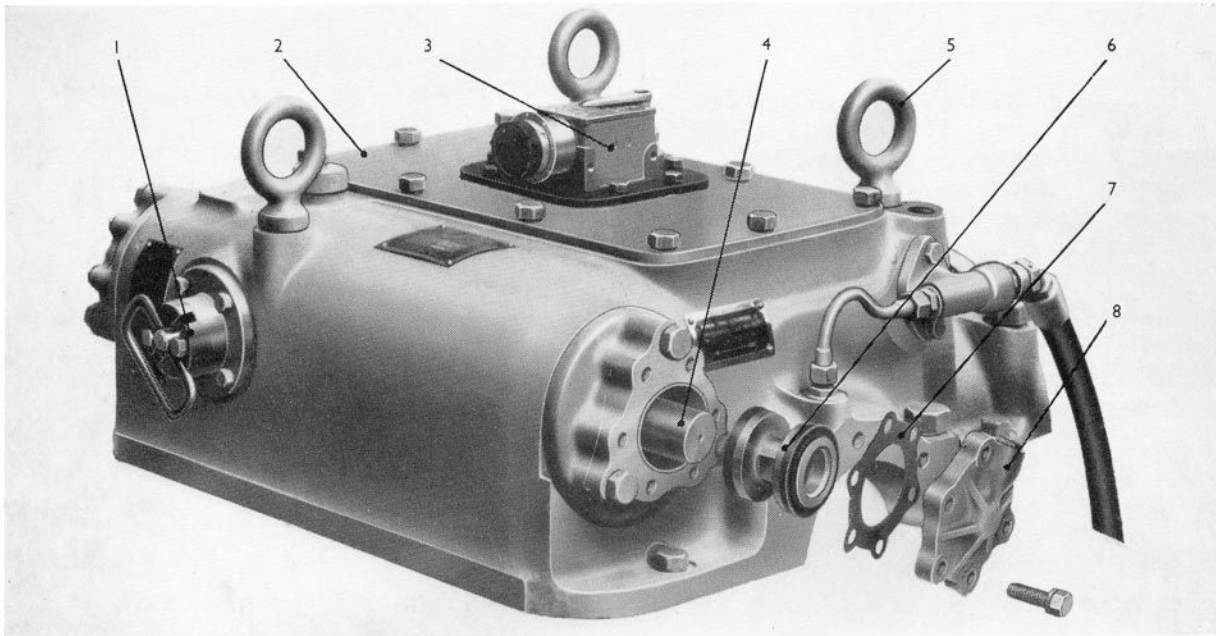

**Fig. 7. View of Axle Mounted in Bottom Portion of Gearcase.**
Take the weight of the axle assembly (37) and completely remove thrust plates (30), keeping axle half shims (31) and outer races (32) together. The axle (37) can now be lifted away from the bottom portion of the gearcase (See Fig. 7).
portion of case (See Fig. 7). Re-fix bearing thrust plates (30) on to the bottom portion of gearcase, and so retaining in position axle roller bearings (32).